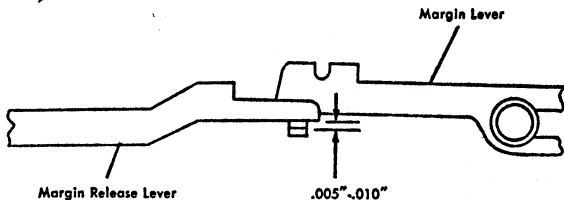

Figure 8. Margin Release Adjustment
14. ADJUST THE ECCENTRIC ON THE GOVERNOR CONTROL BRACKET ASSEMBLY to allow .005" to .010" clearance between the margin release lever and the margin lever in the No. 1 partial position with the air cylinder lever unlatched. Adjust the link between the margin release key lever and the margin release bell crank so that the above tolerance is not reduced and margin release past the extreme left-hand margin stop may be obtained (Figure 8).